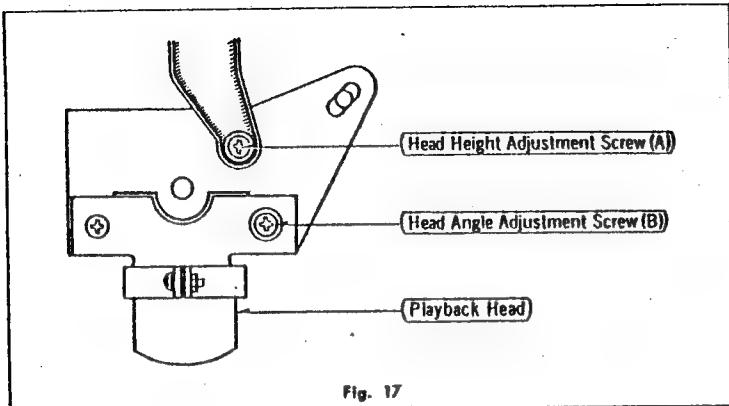
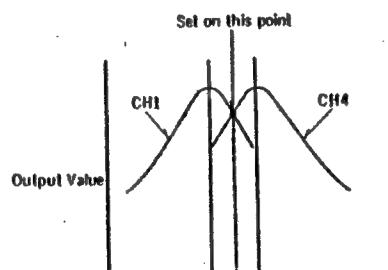
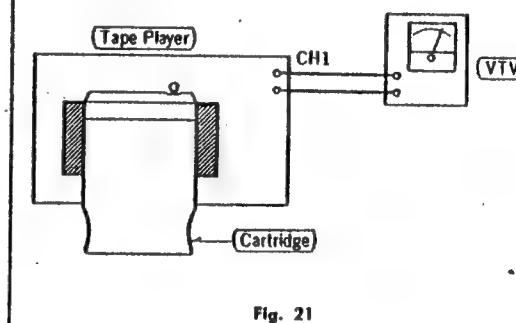

Fig. 17
Fig. 19
Fig. 21
2. Make an adjustment with the unaided eye by using the head height adjust screw (A) shown in fig. 17 so
3. Using either an RCA321 test tape or recorded music, play the tape and adjust screw B in fig. 17 for a balanced maximum output (fig. 19).
2. Play the tape and adjust screw (fig. 17) for minimum sound on channel 1, or connect the equipment as shown in fig. 21.
3. Lock screws A and B in place, using glyptal or glue, fig. 17.